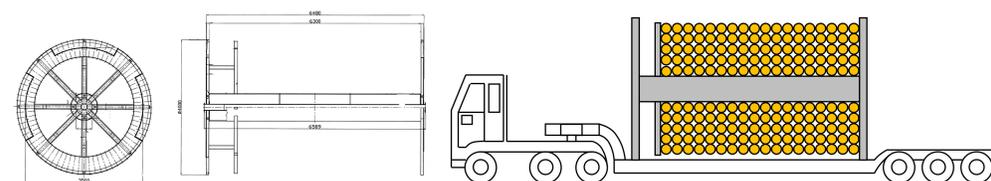

Figure 3. Image of winding reel of mooring rope and transportation
- Confirming the size and cost of full-rope winding reels (Figure 3) for demonstration operation.